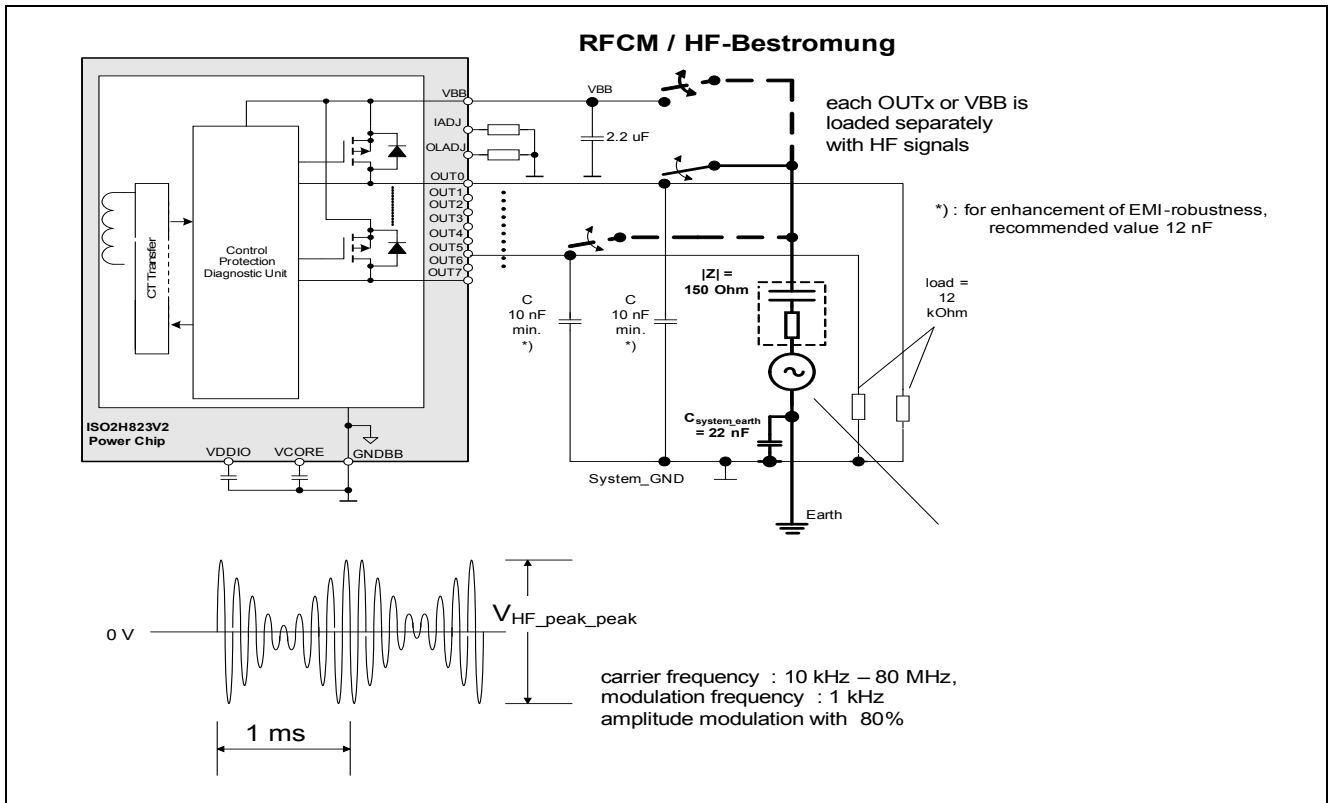

Figure 27 RFCM-Application
**Figure 27** shows the test circuitry for applying RFCM frequencies. The fat drawn equipment symbolizes the HF-generator and the coupling of HF frequencies to the OUTx-pins and/or to the VBB-pin (the drawn coupling network shall symbolize an effective impedance of 150  $\Omega$  regardless of the frequency as specified in IEC 61000). The HF-disturbance is an 80%-amplitude modulated signal with the carrier frequency of 10 kHz - 80 MHz and the modulation frequency of 1 kHz.
The 80 % amplitude modulated signal is shown in **Figure 27** in the lower half. With external elements on the user-PCB-board it is targeted to achieve a RFCM-robustness against the defined HF-signals of  $V_{HF\_peak\_peak} = \pm 25 V$ .